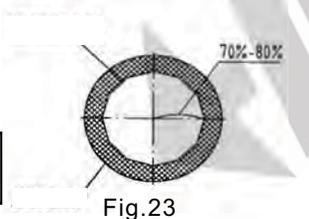

Fig.23
(1) The aperture aperture determines the numerical aperture of the lighting system. The matching of the numerical aperture of the lighting system and the numerical aperture of the objective lens can provide better image resolution and contrast, and can increase the depth of field.
(2) The change direction of the aperture size is the same as that of the field aperture. The aperture size is controlled by adjusting the aperture dial ①. Adjust the left and right aperture diaphragm adjusting screws ② to adjust the image of the aperture diaphragm to the center of the aperture. If necessary, remove the eyepiece, observe from the eyepiece barrel, and adjust the aperture diaphragm adjusting ring ① until you see the image shown in Fig.23.